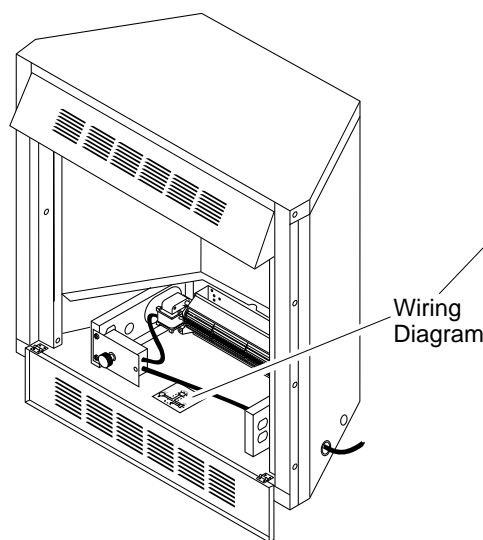

Figure 20 - Location of Wiring Diagram Decal, 12" in Front of Blower and 3" from Blower Speed Control
11. Peel off the backing paper and stick the supplied wiring diagram decal on the firebox bottom approximately 12" in front of blower and 3" to the right of the blower speed control. (see Figure 20).